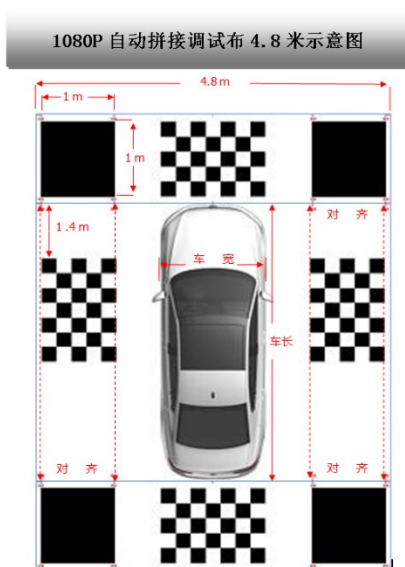

FIG. 3-11
Vehicle width: distance between the outer sides of two wheels (refer to Fig. 3-11)
Vehicle length: distance between the lower side of the front black grid and the upper side of the rear black grid (refer to Fig. 3-11)
2. Select the stitching debug cloth corresponding to the actual use (refer to Fig. 3-11 for the placement of debug cloth)